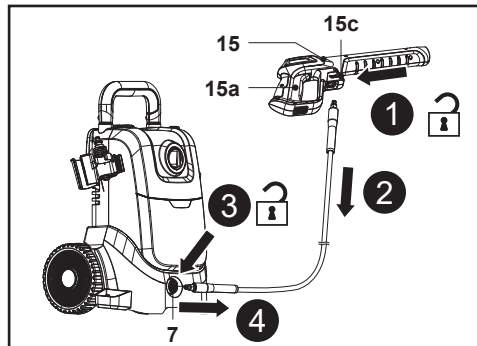

Fig. 6
4. To disconnect the pressure hose (14) from the spray gun (15), push the quick release lever (15c) towards the pressure hose (14) and hold it in place, then pull out the pressure hose (14) (Fig. 6, steps 1, 2).
5. To disconnect the pressure hose (14) from the machine, push the outer ring of the hose connector (7) inward and hold it in place, then pull out the pressure hose (14) (Fig. 6, steps 3, 4).